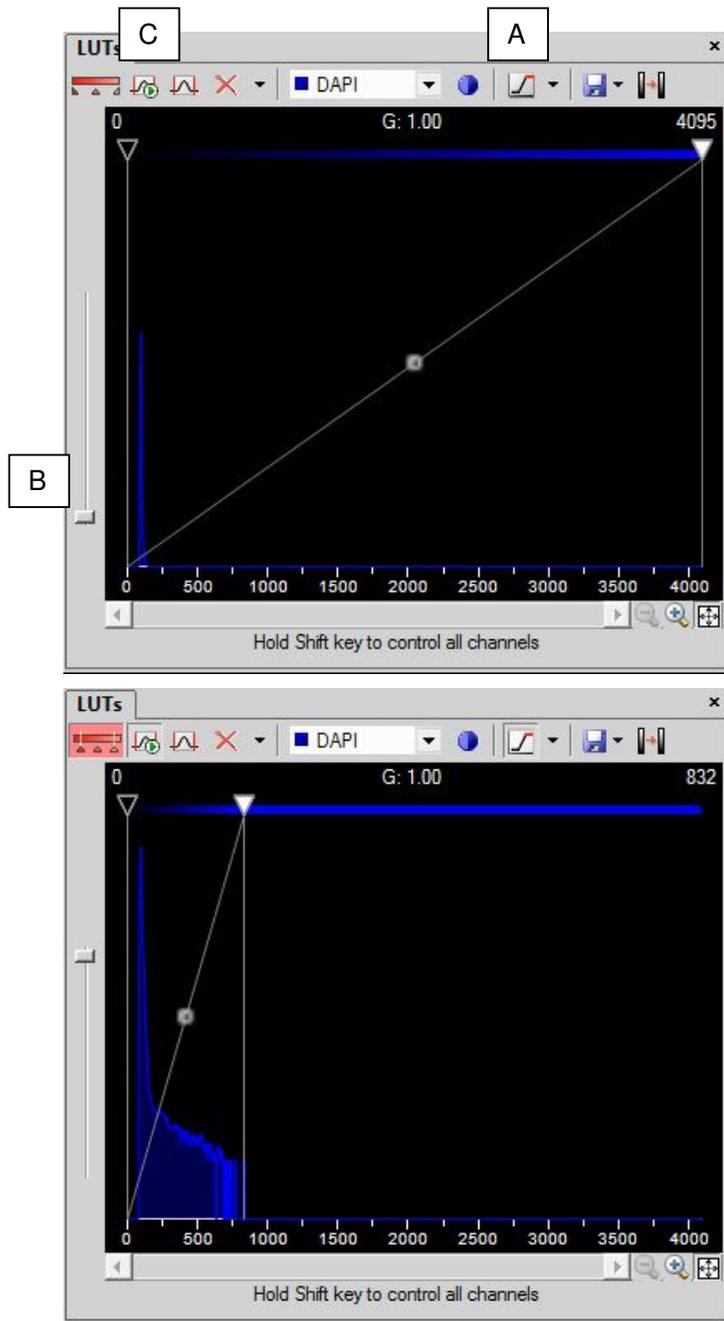

Figure 24. Look Up Tables (LUTs) for adjusting contrast. Saturation toggle switch (A), keep auto scale on switch (B), and make Y axis logarithmic (C).
5.8.5 Look up tables (LUTS, Figure 24)